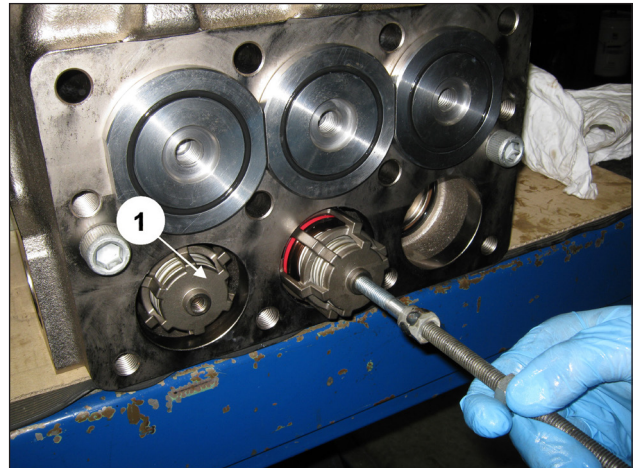

Fig. 137
The complete valve unit must be driven fully home and should appear as shown in pos. ①, Fig. 137.